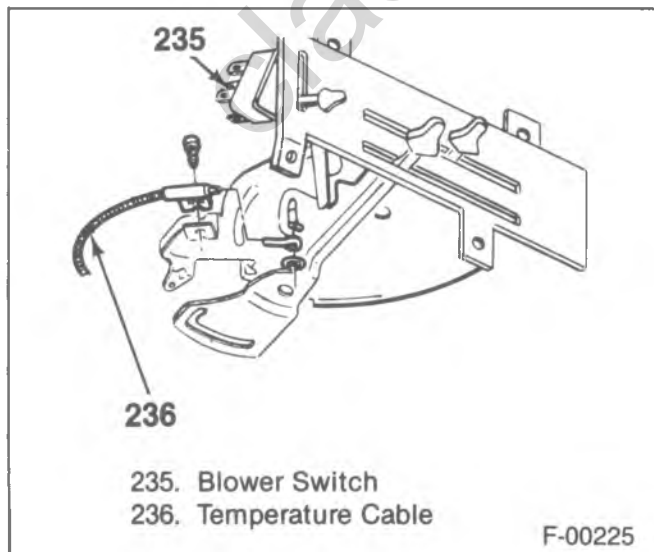

Figure 40—Control Assembly Replacement
Remove or Disconnect (Figure 40)
5. Cable (236) (figure 40).
Install or Connect (Figure 40)